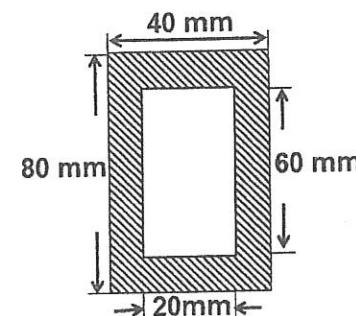

Figure 3(a)/ Rajah 3(a)
- a) A simply supported beam with cross-section as shown in Figure 3(a) below. Determine the value of Neutral Axis and Second Moment Area of the beam.